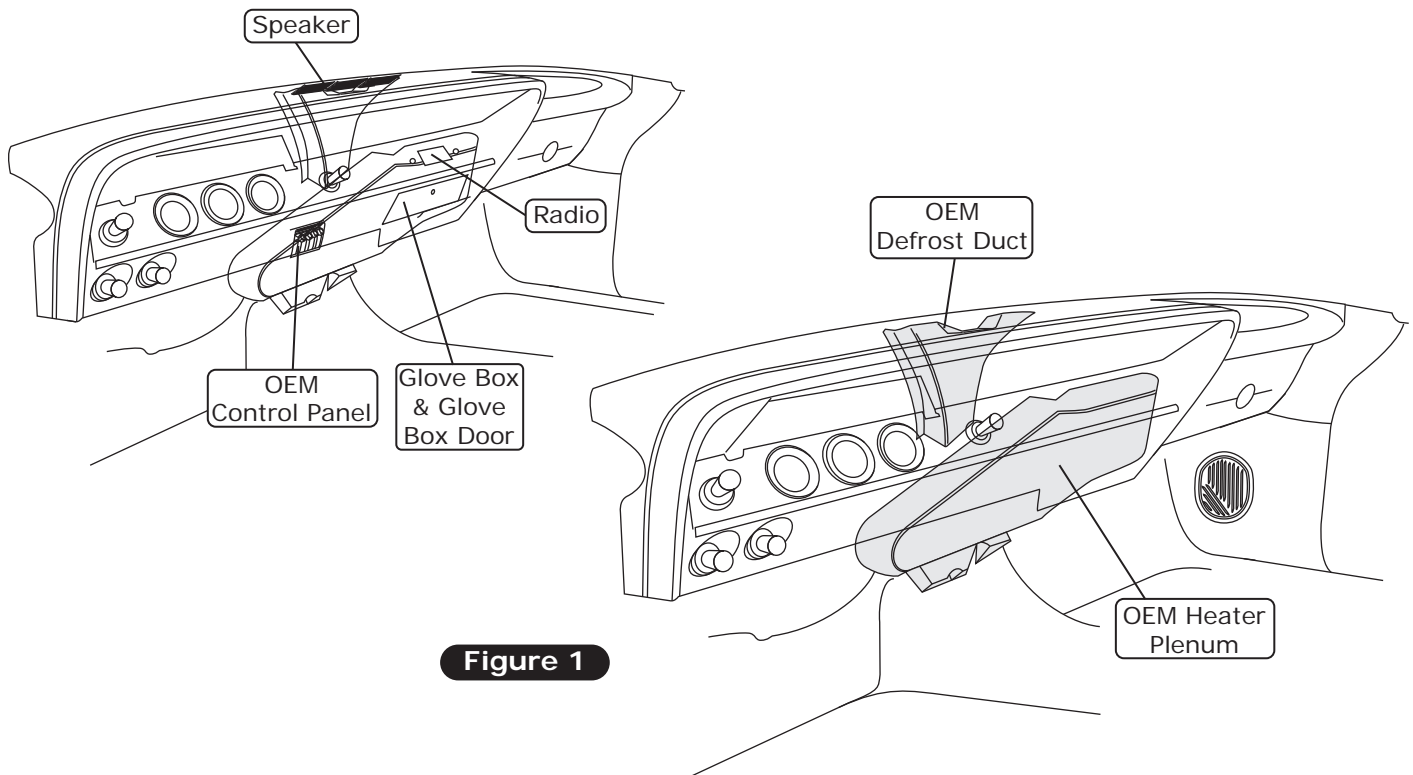

Figure 1
4. Remove the radio and speaker (retain) (See Figure 1, below).
5. Remove the OEM defrost duct assembly (discard) (See Figures 1 & 2, below).